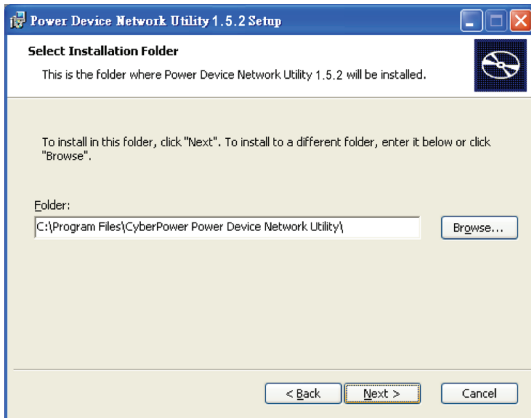

Figure 2
Step 3. Choose an installation directory. Select **Next** (Figure 2).